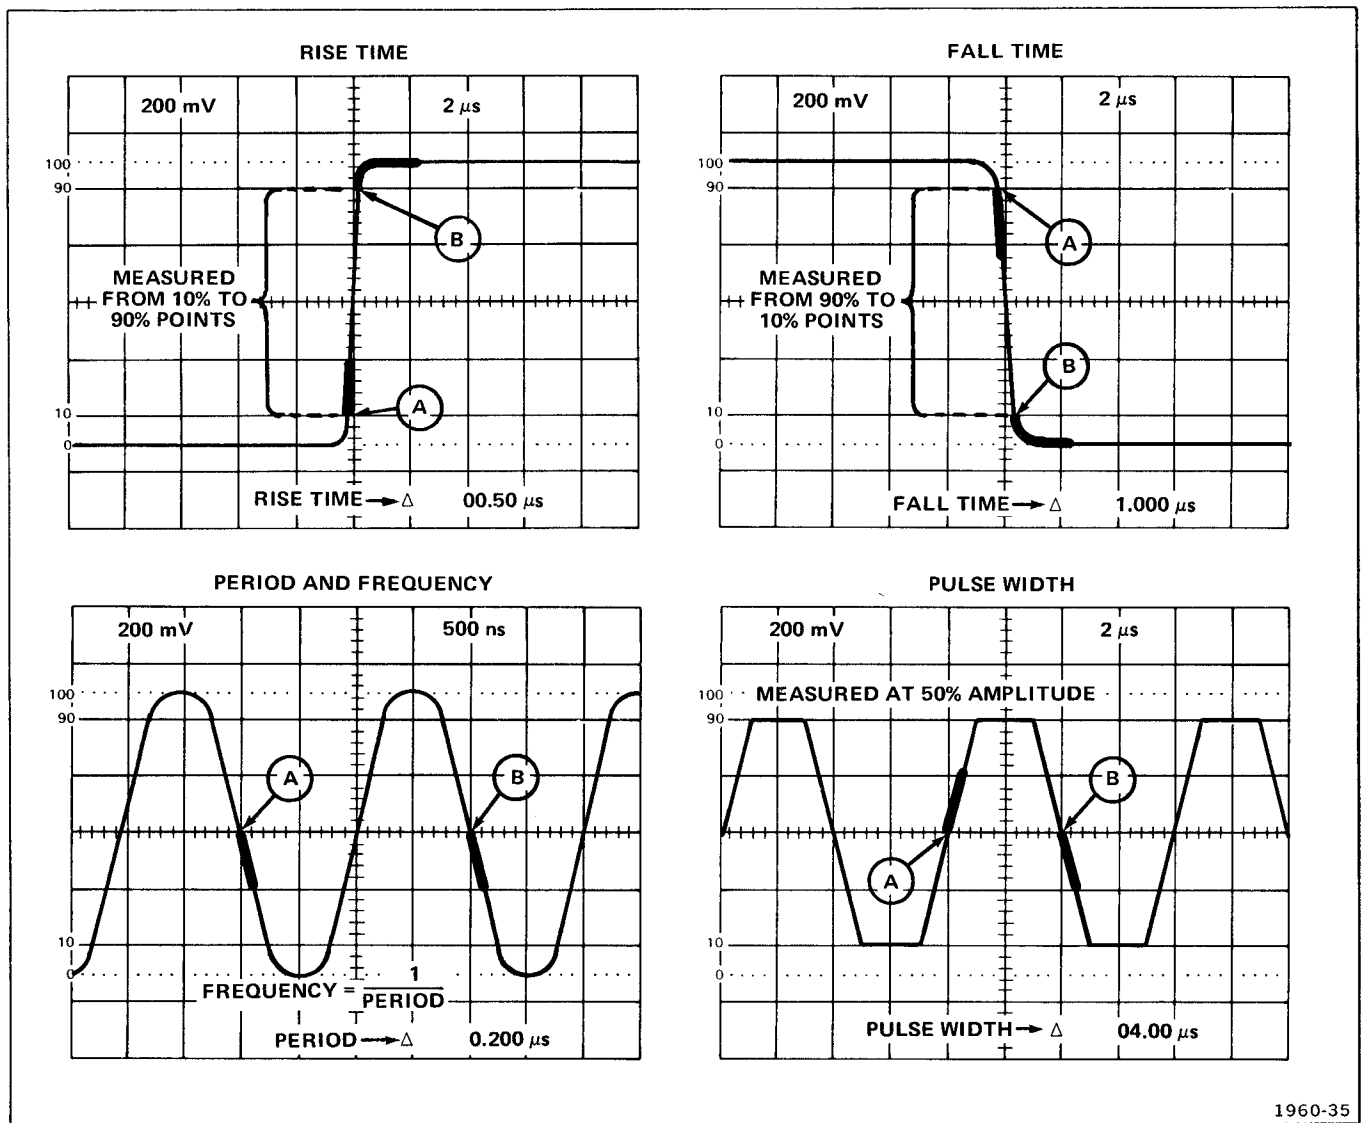

Fig. 1-9. Measuring rise time, fall time, period, frequency, or pulse width in the Δ (differential) time mode.
6. Set the appropriate triggering, position, deflection-factor, and sweep-rate controls to obtain the desired display. See the example in Fig. 1-9.
7. Adjust the DELAY TIME control to position the leading edge of the first intensified zone to the beginning of the time interval to be measured (see Fig. 1-9, point A).
9. Adjust the Δ TIME control to position the leading edge of the second intensified zone to the end of the time interval to be measured (see Fig. 1-9, point B).